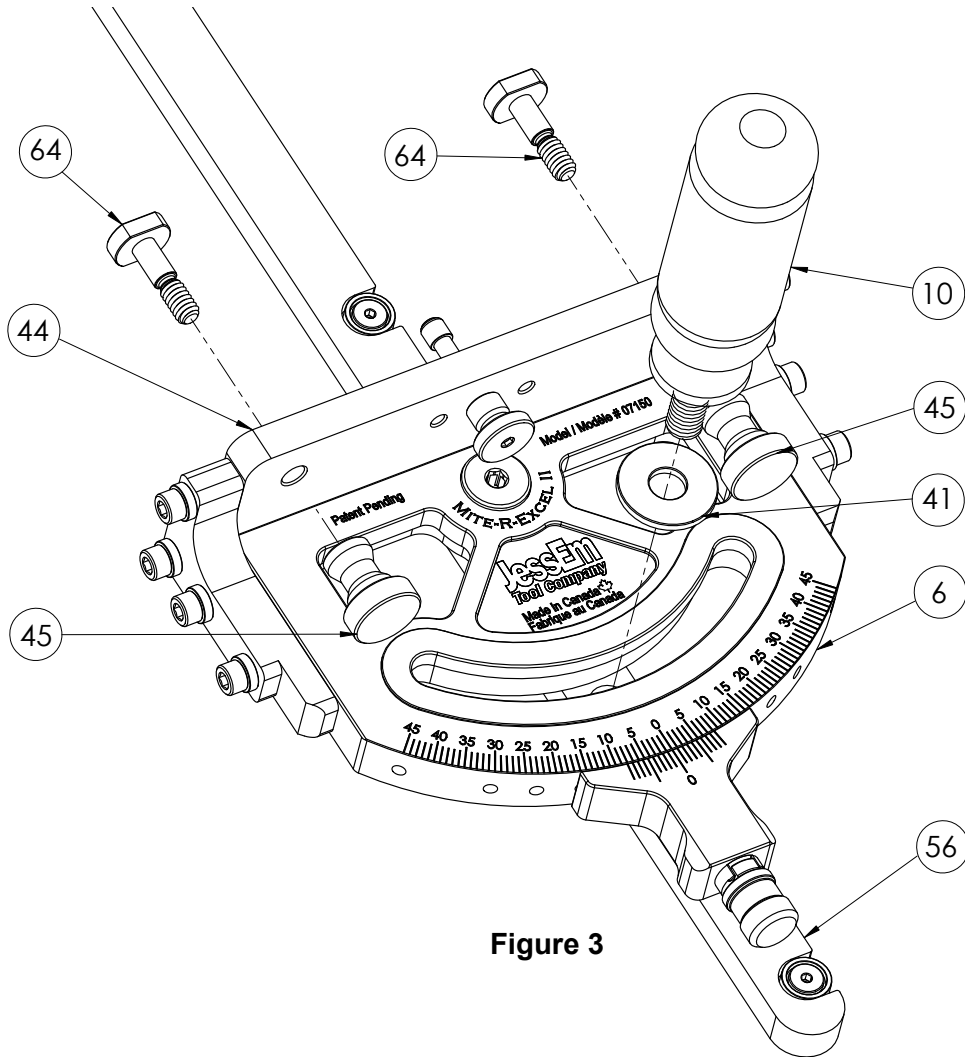

Figure 3
- a. Slide the 3/8" x 1" Stainless Steel Washer (Part #41) onto the Handle (Part #10) and thread the handle into the guide bar (Part #56) as shown in **Figure 3**.
- b. Slide (2) Fence Clamping T-Bolts - Long (Part #64) into the Fence Mount (Part #44) and secure them in place with the Fence Knobs (Part #45) as shown in **Figure 3**.